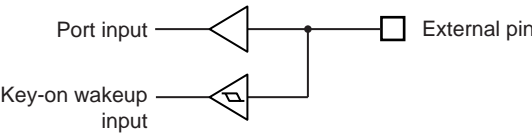

Figure 14-2 Key-on Wakeup Input and Port Input
- Note 3: The input circuit of Key-on Wakeup input and Port input is separated. Also each input voltage threshold value is different. Therefore, a value comes from port input before STOP mode start may be different from a value which is detected by Key-on Wakeup input (Figure 14-2).